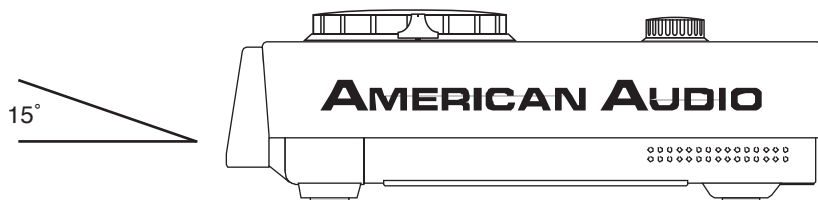

Figure 1
- The player will work normally when the main unit is mounted with the front panel within 15 degrees of the vertical plane. If the unit is tilted excessively, disks may not be loaded or unloaded properly. **(Figure 1)**